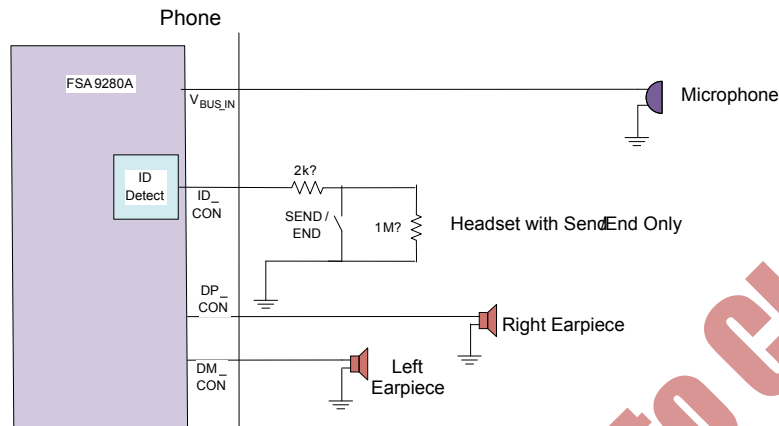
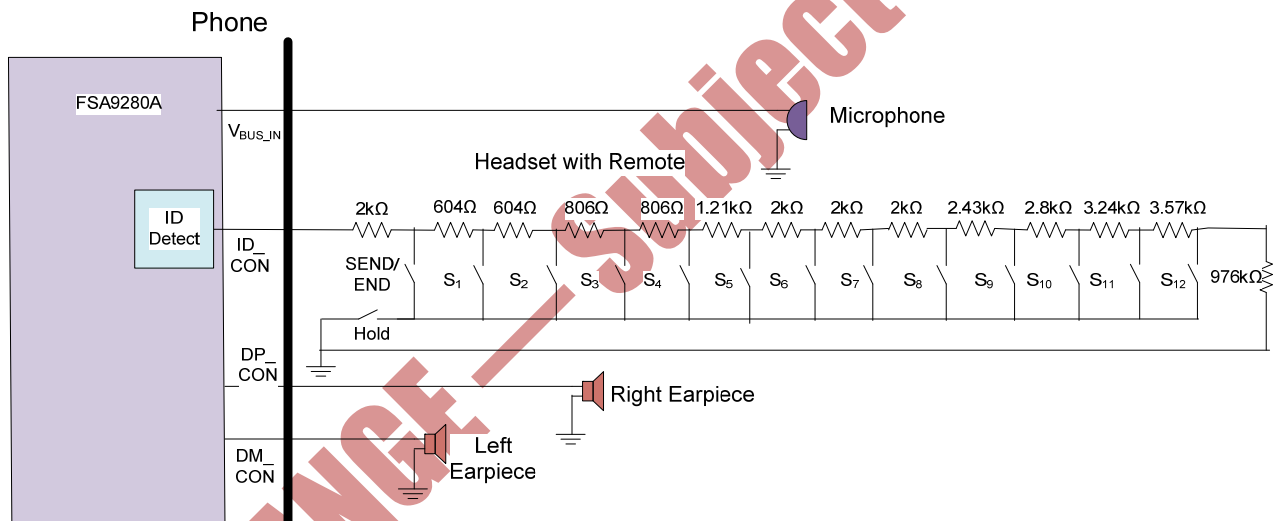

Figure 12. Audio Accessory with Just Send/End Button (1% or 5% Resistors)
Figure 13. Audio Accessory with Full Wired Remote Control (1% Resistors)
- These resistor values are created by multiple standard resistor values in series to form the button presses on the wired remote (see Figure 12).
Audio accessories are detected when the ID_CON pin resistance to GND is approximately 1M Ω . Configurations for this audio accessory shown in Figure 12 and Figure 13.